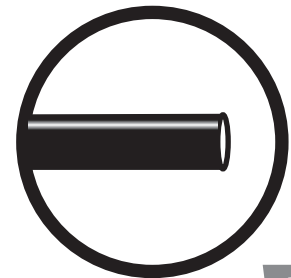

fig. 14
- a. Check the air line connection by deflating the spring and removing the line by pulling the collar against the fitting and pulling firmly on the air line. Trim 1" off the end of the air line. Be sure the cut is clean and square (see fig. 14). Reinsert the air line into the push-to-connect fitting.
2. If the preceding steps have not resolved the problem, call Air Lift customer service at (800) 248-0892.